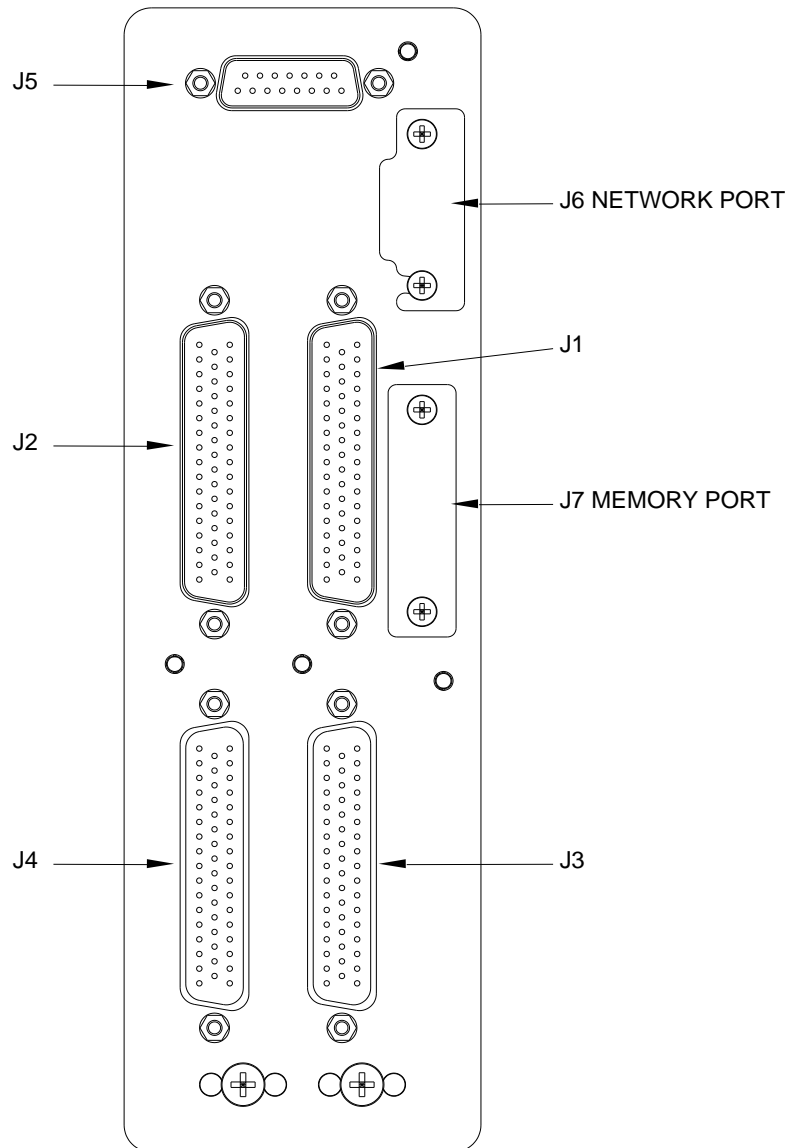

Figure 2
3.1. G13000 Router Connections (see Figure 2)